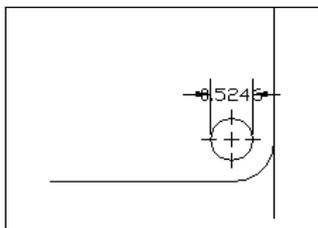

Figure 15-16: A narrow dimension using the Always Keep Text between Ext Lines option.
- ♦ **Always Keep Text between Ext Lines:** As it says, this option always keeps the text between the extension lines, even if they don't fit. Figure 15-16 shows a dimension using this option.